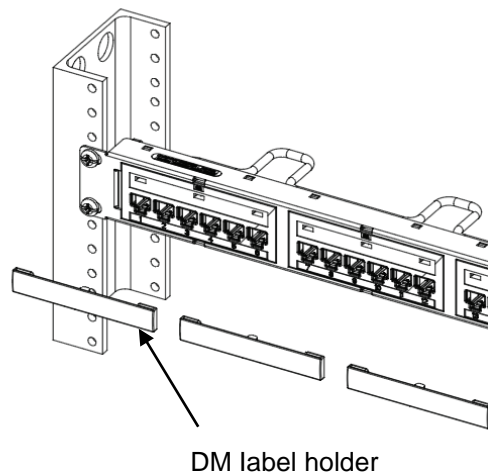

Figure 1
1. Enter information on the white information labels provided in label holder kits. Snap holders into panel modules and insert labels into label holders as shown in figure 1.
The termination managers provide pair positioning, control, and strain relief features to the rear termination area of the panel. See Figure 1. Instructions for using the termination manager are listed below.